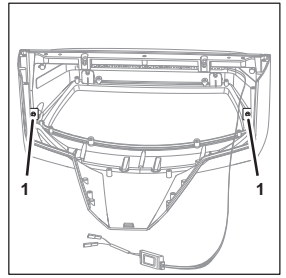

Fig. 33
17. Position the mounting brackets (Fig. 33/1) on the taxi cab hood.